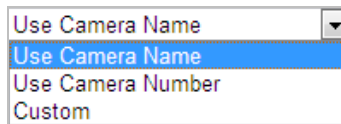

Figure 6-10 Child Directory
- ◆ **Child directory:** It is a sub-folder which can be created in the parent directory. The files will be saved in a sub-folder in FTP server. The name of folder can be defined as shown in following Figure 6-10.